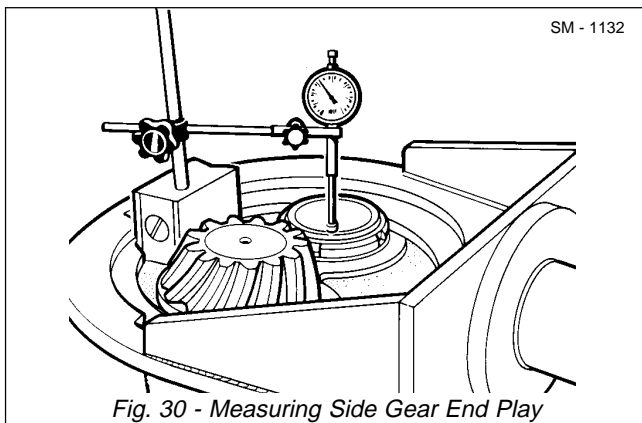

Fig. 30 - Measuring Side Gear End Play
17. Using a dial indicator determine differential side gear (22) end play. For example, if there is a measured end play of 0.1 mm (0.0039 in) then spacing ring (84) thickness must be reduced by 0.1 mm (0.0039 in). To install a narrower spacing ring (84) repeat Steps 15 & 16. Lock slotted nut (86) to differential side gear (22). There must be no bearing (85) end play or pre-load. Refer to Fig. 30.